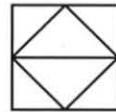

Figure 37. Instrument Tag
8. Determine the type of device indicated by the tag in figure 37.